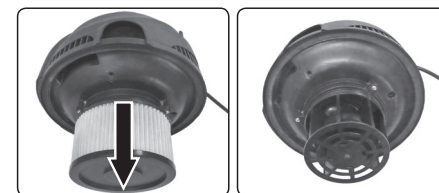

Fig. 6A
- If the HEPA filter is excessively clogged, take it off the holding frame (see fig. 6A) and wash it out according to the procedure described later.